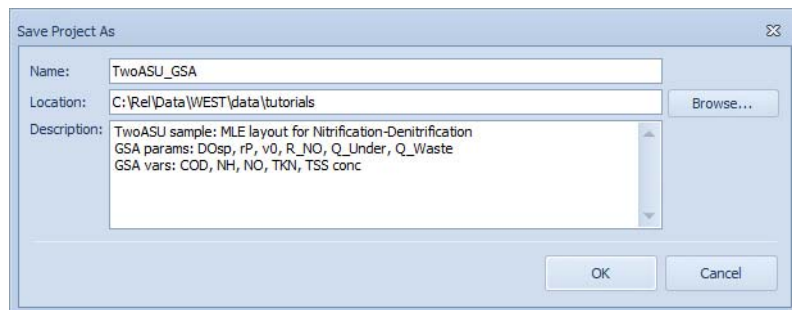

Figure 9.1 Save As dialogue, to use the TwoASU sample as the starting point for the Global Sensitivity Analysis example
- Provide a name and a description for the new Project (Figure 9.1)